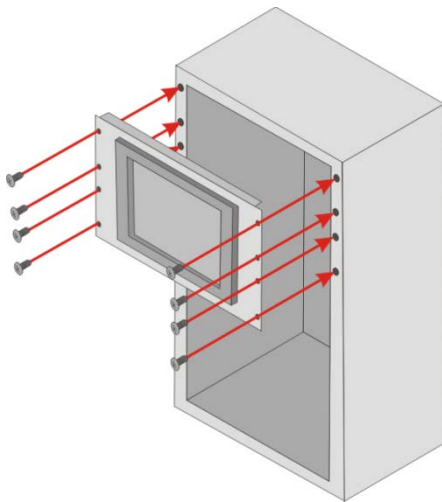

Figure 3-38: Install DM-F19A into a Rack/Cabinet
Step 3: Slide the LCD monitor with the attached rack/cabinet bracket into a rack or cabinet (**Figure 3-38**).